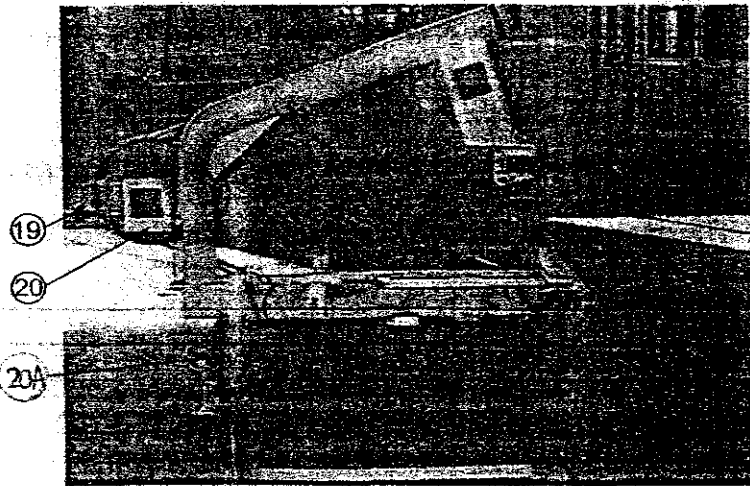

Fig. 2
5. Rotate the tension bar 19 (Fig.2) to make the band knife loose for replacing.